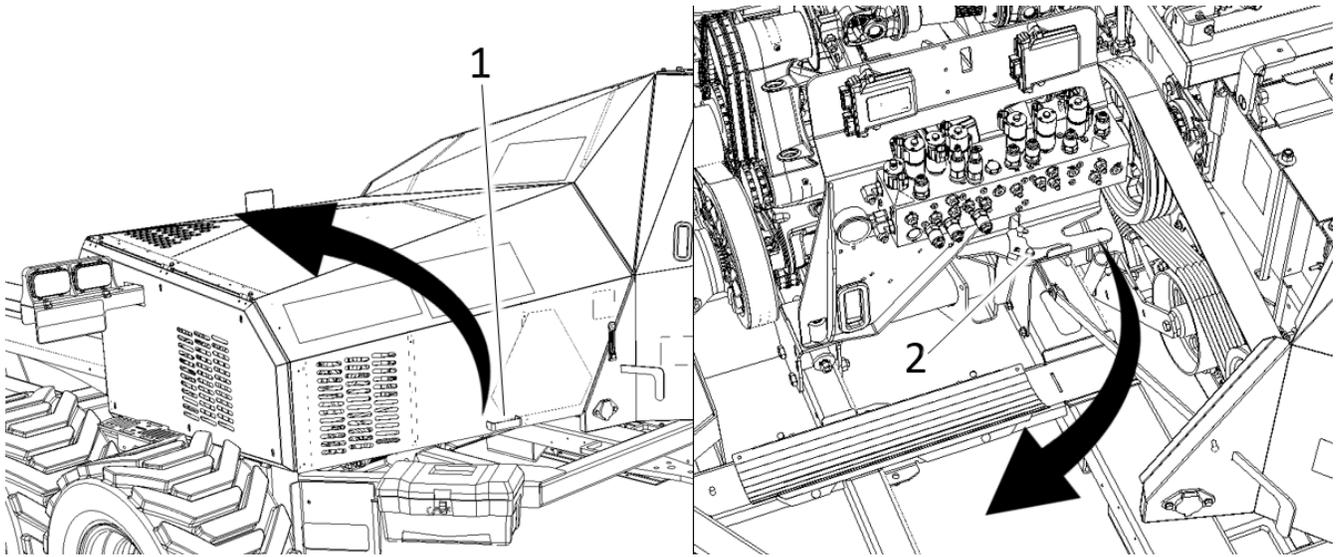
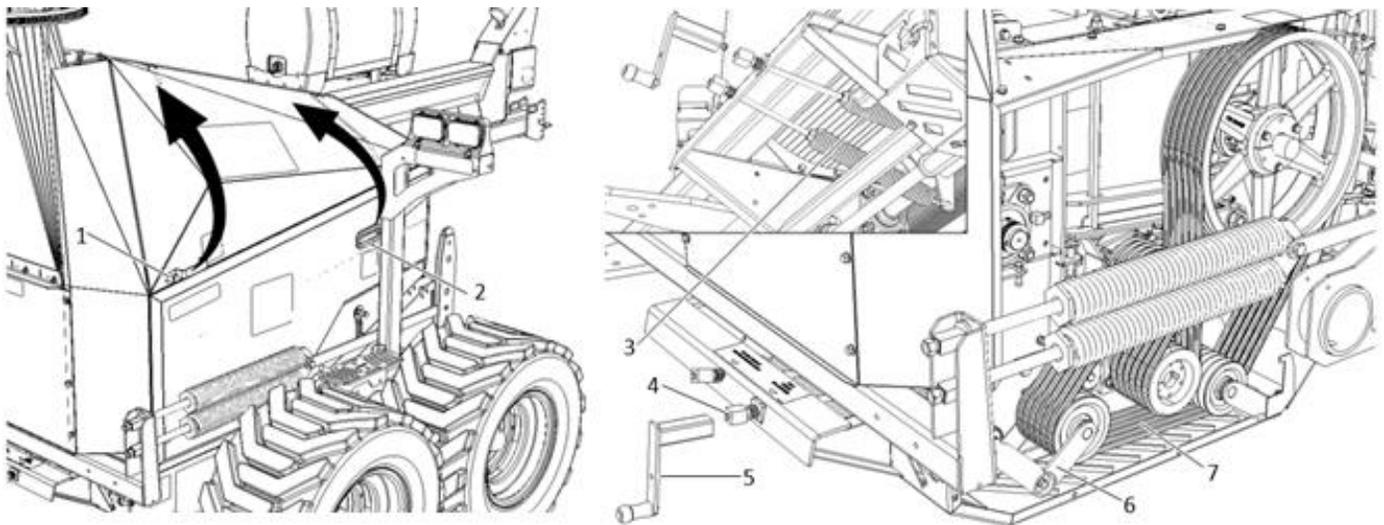

Figure 32 Main guard and valve manifold
Figure 35 Guards and processor rolls
#### STEP 1 - FIGURE 32
### STEP 4 - FIGURE 35
Replace the side guard (item 2, FIGURE 35), the right butterfly guard (item 1, FIGURE 35) and the main guard (item 1, FIGURE 32) and lock.